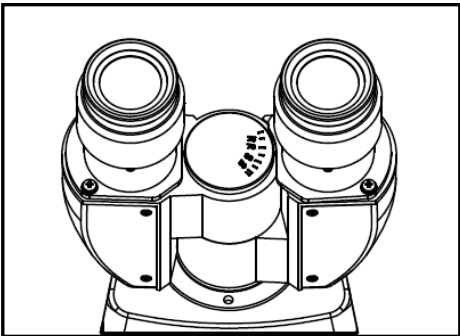

Fig.18
3.2.3 Adjusting the Interpupillary Distance (Fig.18)